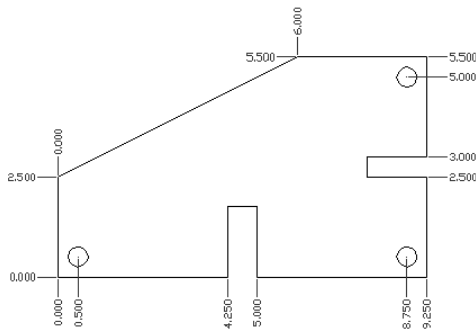

Figure 14-22: The dimensioned template.
4.  Choose Ordinate Dimension from the Dimension toolbar. At the Specify feature location: prompt, choose ❶ in Figure 14-21. At the Specify leader endpoint or [Xdatum/Ydatum/Mtext/Text/Angle]: prompt, pick a point 0.5 units to the left of ❶, as shown in Figure 14-22. (Because Snap is on, this is easy. If necessary, press F6 until you get polar coordinates to display in the lower-left area of the drawing screen.)
6. Continue to dimension the drawing, using Figure 14-22 as a guide.